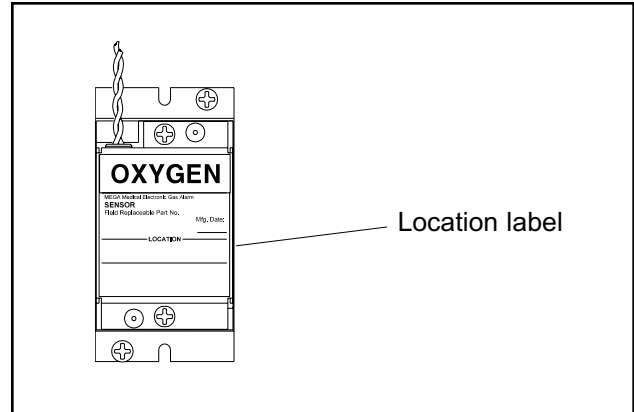

Figure 17: Sensor Module Location Label
6. Mark location monitored by sensor in space provided on sensor label. Refer to Figure 17.
2. Insert sensor into valve opening in pressure/vacuum service rough-in. An indexing pin provides for proper orientation and prevents gas service cross-connection. Push sensor all the way in and secure with (2) #6-32 x 1-1/4" screws. Repeat this process for all sensors within alarm panel.
4. Mark location monitored by sensor in space provided on sensor label. Refer to Figure 17.